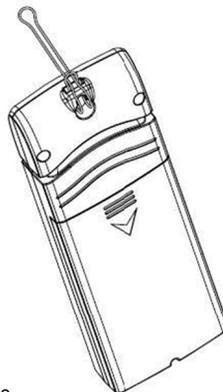

Figure 8
2. Hang the remote sensor up on string, as shown in Figure 8.